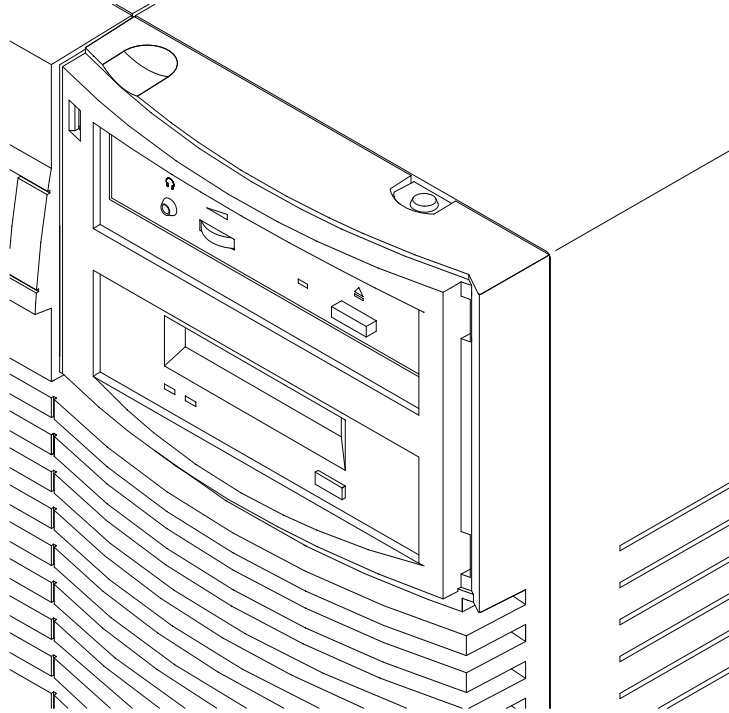

Figure 6-4. Disc Tray Closed
5. Gently push the disc tray in until it is closed, as shown in Figure 6-4.